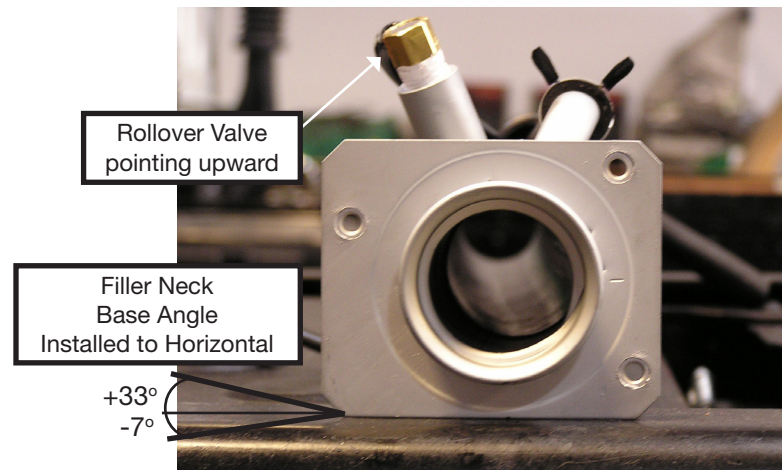

Figure 14.37.2
The fuel filler neck (5) must be installed with the proper orientation on the body. The neck should be installed with the roll-over valve pointing upward, with the bottom edge of the neck oriented parallel to the ground, plus 33 to minus 7 degrees. See **Figure 14.37.2** for the proper orientation.